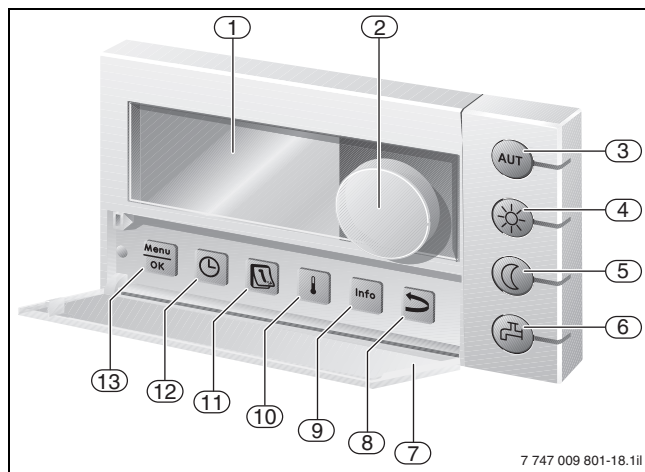

Fig. 43 Displays, indicators and controls of the RC35 programming unit
The RC35 programming unit (→ Fig. 43) is connected to the Logamatic EMS control system and is supplied with power via a 2-core BUS cable. The RC35 programming unit can either be clipped into the Logamatic BC25 base controller in the boiler or installed on a wall mounting bracket inside the living space. Installed in the living space, the programming unit RC35 is also suitable as a convenient room temperature-dependent controller. The RC35 programming unit must be software version 1.15 or higher in order to guarantee full compatibility.
The RC35 programming unit is equipped with a programmable 6-channel digital time switch with eight standard programs for the graphic display of the switching cycles and the outside temperature (with integral "Weather station"). Individual programs can also be created for each heating circuit in conjunction with the Logamatic EMS control system and/or the MM10 module. An individual time channel is available for DHW heating including control of a DHW circulation pump. The standard functions also include thermal disinfection, which can be adjusted as required, and once only DHW heating. All important information regarding the heating system, including fault displays, room temperature, time and day of the week can be captured with the RC35 programming unit and displayed "in plain text" on the backlit LCD with graphic capabilities (→ Fig 43, pos. 1).
Selector keys (→ Fig. 43, pos. 3 to 5) enable the selection of the heating operation modes "Automatic, Constant heating" and "Constant setback". The integral LED signals the current operating mode.